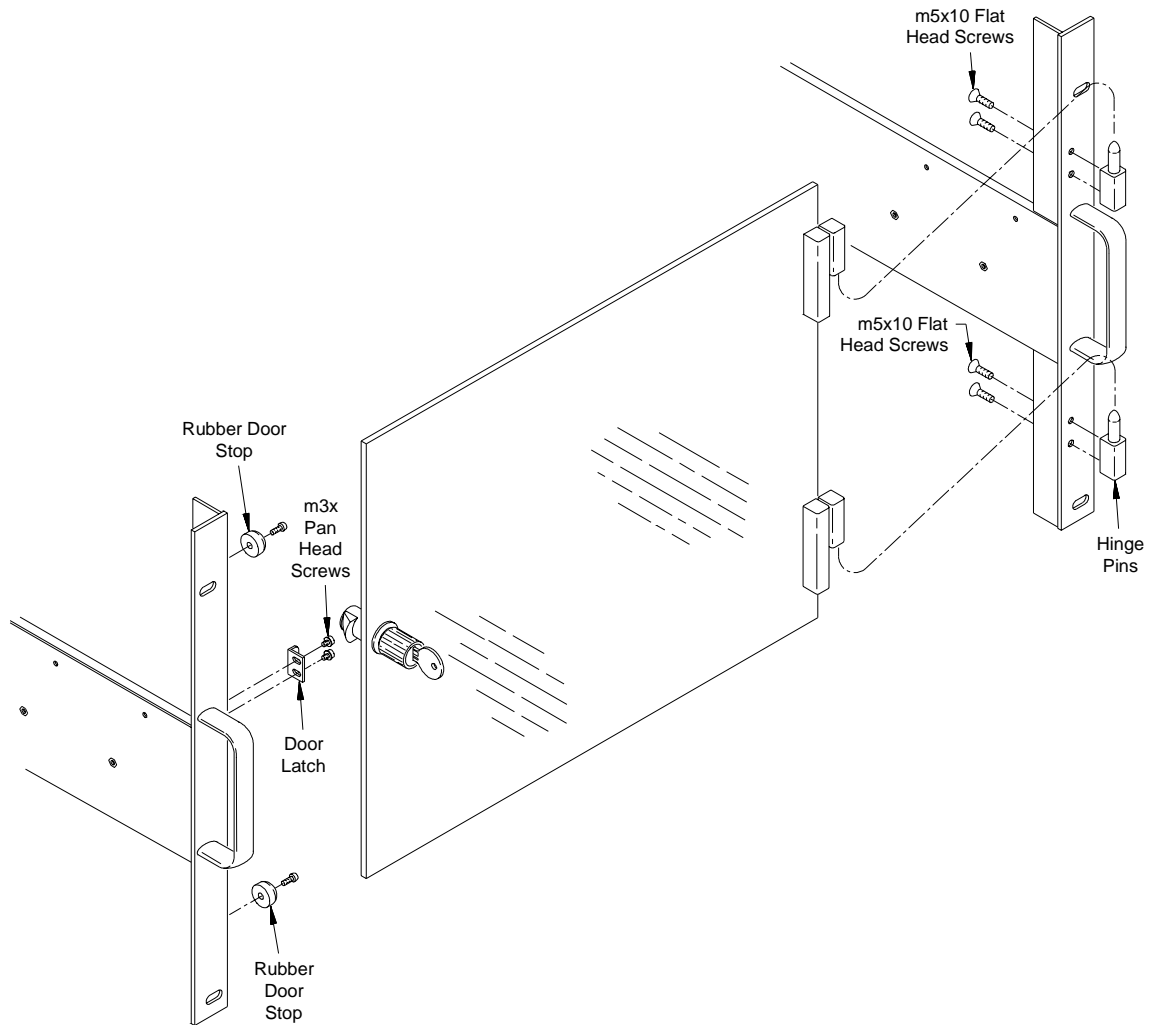

Figure B-12. Installing the Acrylic Door Hinges, Door Stops, and Latch Keeper.
3. Attach the hinge pins to the right rack mount adapter using four m5x10 flat head screws (Figure B-12). Attach the rubber door stops and door latch to the left adapter using four m3x8 pan head screws as also shown in Figure B-12.